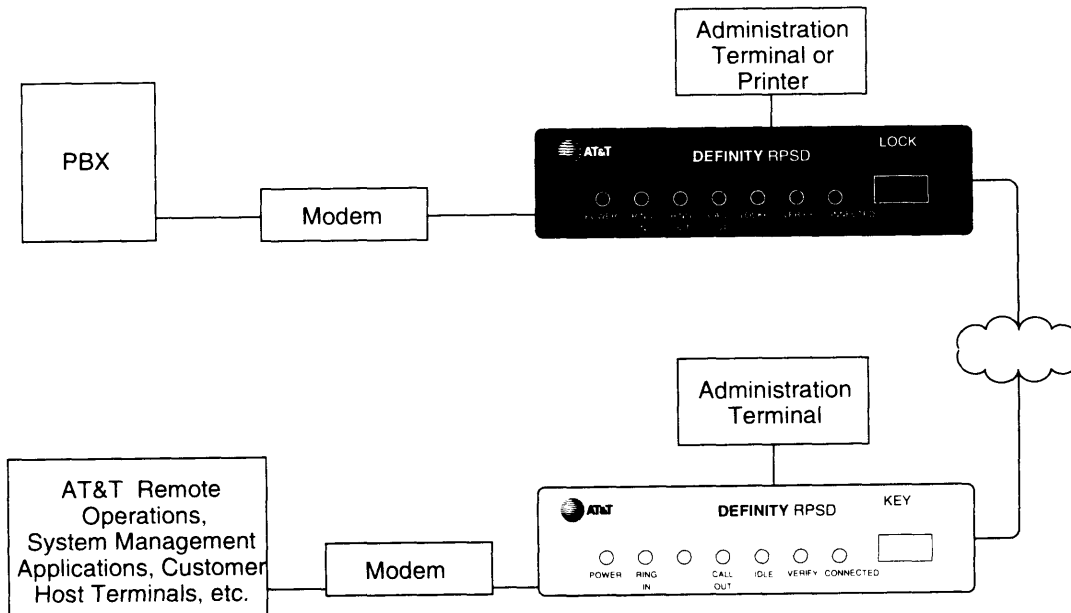

FIGURE 1-2
The RPSD Lock device is approximately the size of a modem and is connected between the PBX modem and the Central Office (CO) line. The RPSD Key device is of similar size and is connected between the client's (caller's) modem and CO line. See Figure 1-2.
In Figure 1-2, the term “AT&T Remote Operations” refers to Technical Services Center remote administration and maintenance operations, Bell Labs Field Support and other entities.